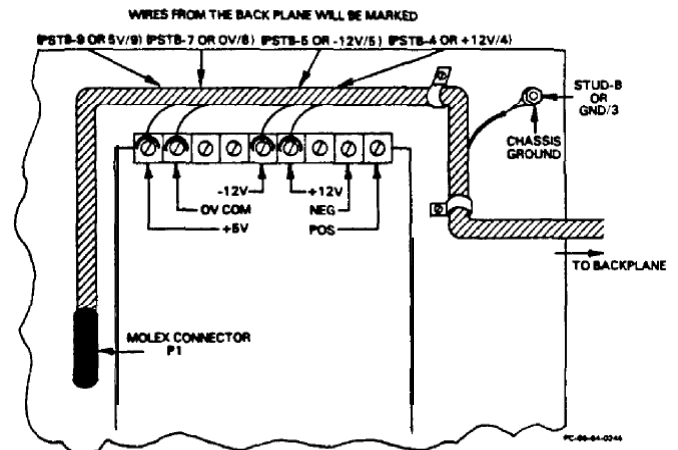

FIGURE 3.
10. Take the replacement power supply and attach the wires as shown in Figure 3. Be sure to connect the 18-pin molex connector (P 1) to the power supply.